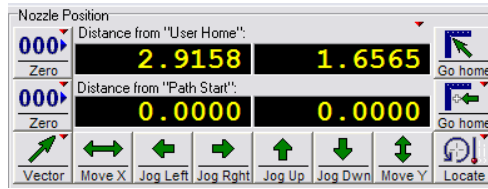

Figure 4-30: Nozzle Position Functions
- b. Once the nozzle is correctly positioned, click **Zero** as the **Distance from Path Start** (see Figure 4-30).